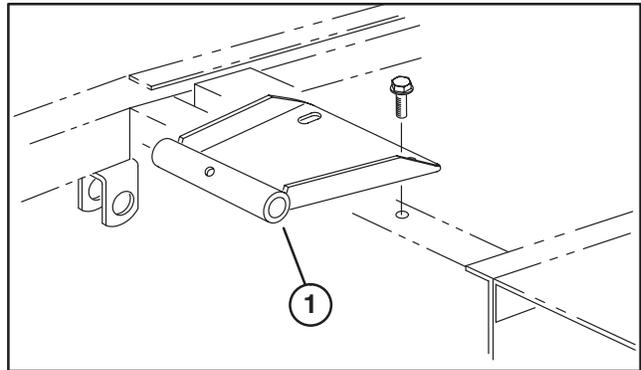

Figure 8
8. Mount seat pivot bracket to frame with (2) flange screws supplied in kit (Fig. 8)
10. Mount seat pivot bracket to frame with (2) flange screws supplied in kit (Fig. 8)